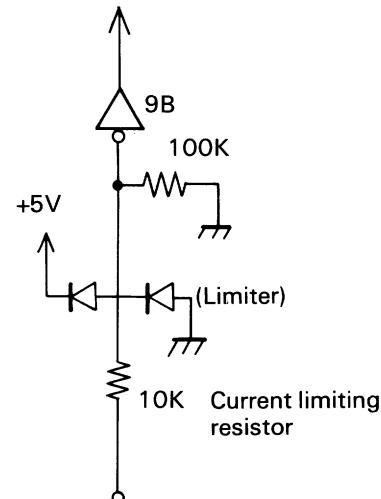

Fig. 2-110
- The 10 kohm current limiting resistor inserted on the receive signal line as shown in Fig. 2-110 protects the connected device from excess current or voltage drop. The next voltage limiter circuit, consisting of two diodes, and converts the RS-232C line levels from the mating transmitter to the 0/+5V TTL levels. The 100 kohm resistor pulls the limiter output down to ensure that the inverter IC 9B functions properly.